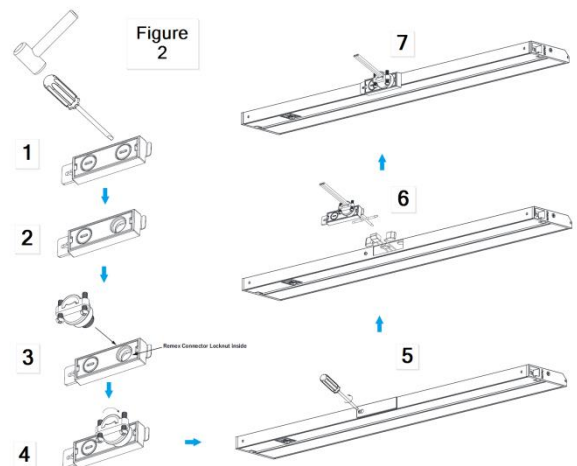

Figure 2
3. Hardwire Installation Preparation (Figure 2)